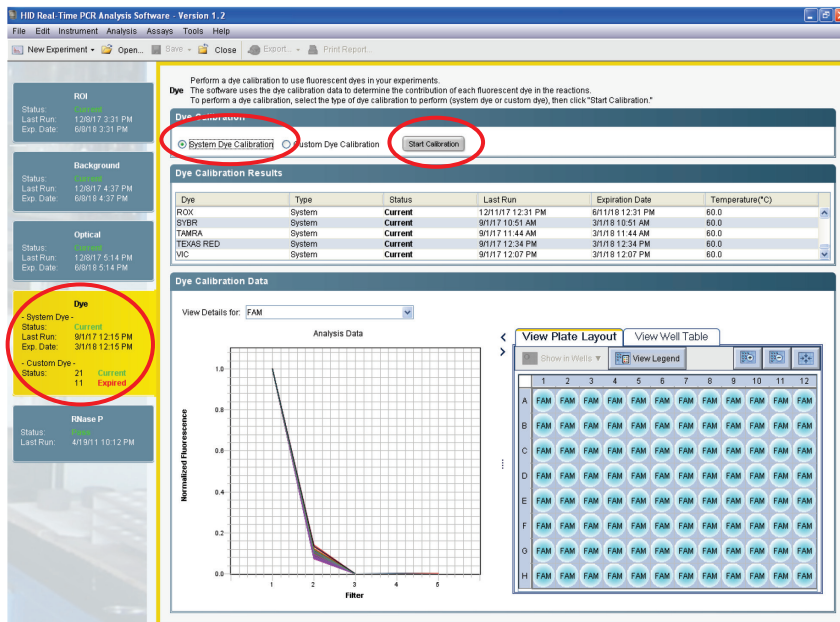

Figure 11. Selecting System Dye Calibration for ROX calibration.
23. To calibrate ROX, open the **Dye** section and select **System Dye Calibration**. Click the **Start Calibration** button (Figure 11).